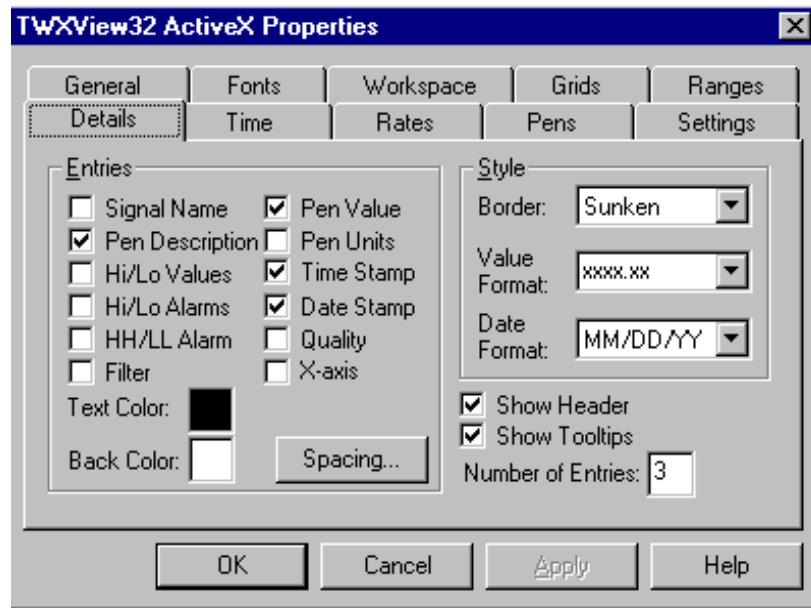

Figure 14-11: TWXView32 ActiveX Properties Dialog Box: Details Tab
2. Select the Details tab (Figure 14-11).